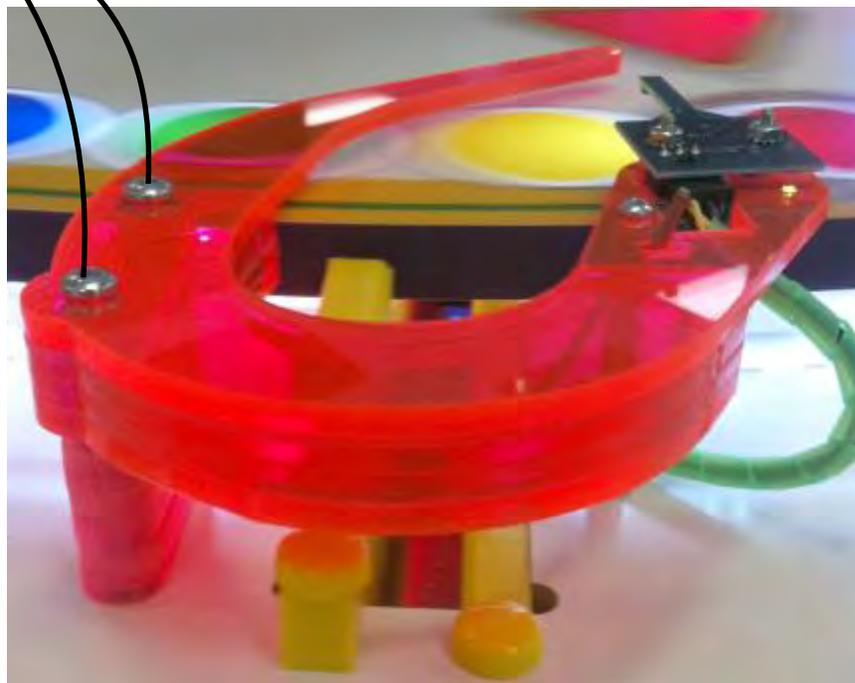

Fig. 18
Place the Puck Sensor Mount Assembly on top of the other fluorescent orange acrylic pieces. Carefully guide the end of the Coin Flip Wire (fig. 17) through the oval hole in the Puck Sensor Mount, and then rest all the pieces on top of the three (3) Hex Spacers that support this whole assembly. Start the #6-32 x 1.0" Long Phillips Pan Head Machine Screw back into the Hex Spacer below. Re-install the two (2) #10-32 x 1/2" Long Phillips Pan Head Machine Screws into the holes provided on the left side of the new Puck Sensor Mount (fig. 18). Tighten these two screws securely.